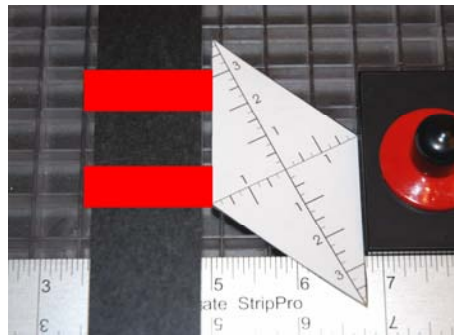

figure 2
2. To determine the width of the piece of glass you will need, place the cut-out on the ruler as shown below. (figure 2)